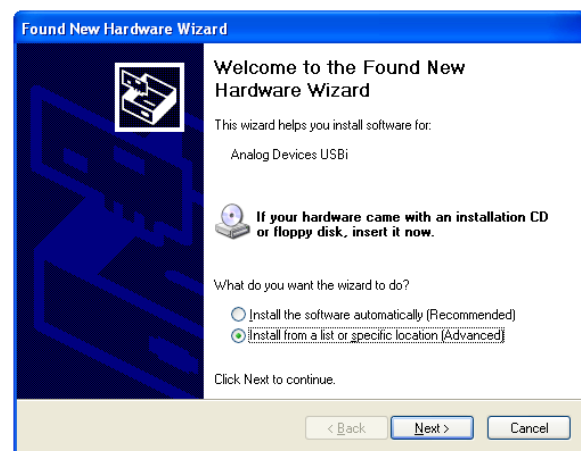

Figure 3. Found New Hardware Wizard Installation
1. From the **Found New Hardware Wizard** window, select the installation from a list or from a specific location using the advanced option, and click **Next** (see Figure 3).